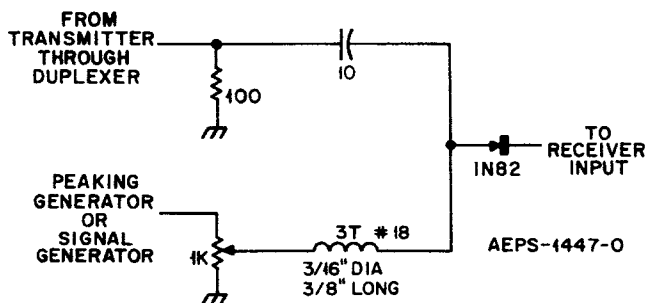

Figure 7. Mixer Circuit
- Mixer circuit constructed as shown in Figure 7.
Alignment of the duplexers can be simplified by using the mixer circuit shown in Figure 7. The mixer receives inputs from the transmitter and a low frequency source. The outputs from the mixer are frequencies above and below the transmitter frequency at separations equal to the output of the low frequency generator.